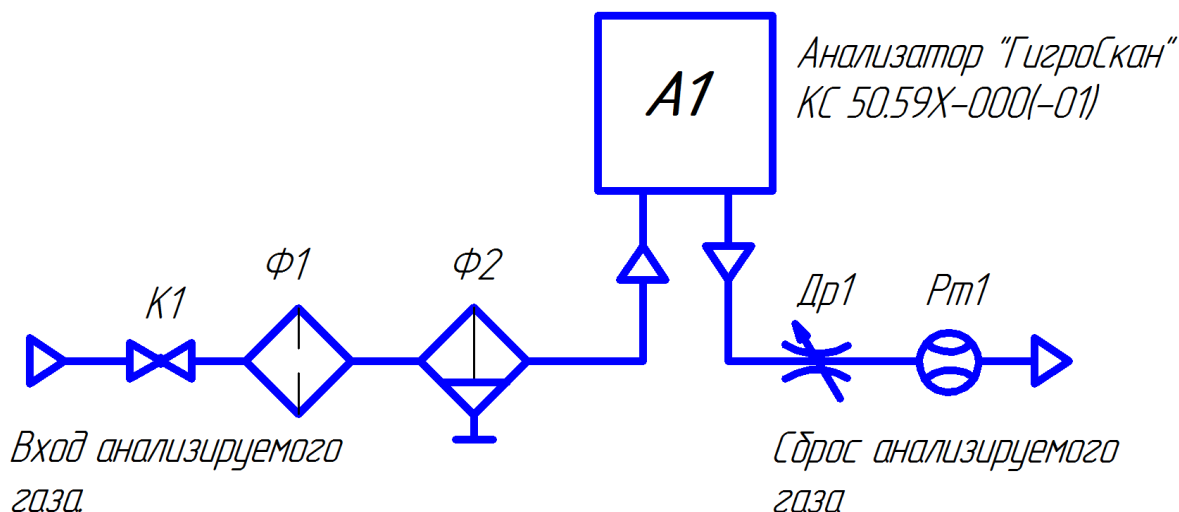
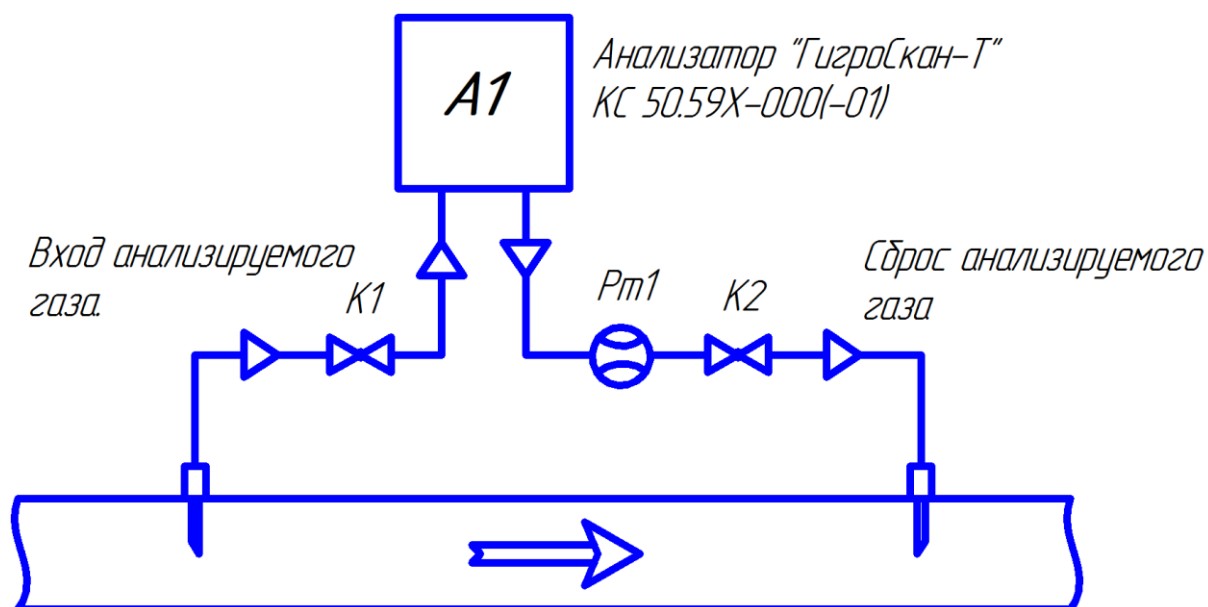

Fig. 2. Typical diagram of the sample preparation system for the analyzer
Fig. 6. Connection of "HygroScan-T" analyzers according to the "closed bypass" scheme
The analyzer (except for the "HygroScan-P" 50.592-000 (-01) model) should be used in conjunction with the sample preparation system. Typical gas diagram of the sample preparation system for "HygroScan" analyzers is given on Fig. 2.
- Filtration from mechanical impurities larger than 5 μm (F1 filter, see Fig. 2);
Transmitters are installed stationary in an explosive zone near the sampling point after the sample preparation system with a discharge onto the spark plug (see Fig. 2) or mounted on a pipe in a "closed bypass" scheme with a return of the analyzed gas flowing through the analyzer back to the pipeline (see Fig. 6).